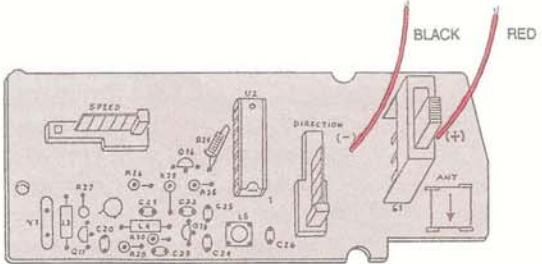

FIG. 60
9. Solder the two battery leads from the pistol-grip controller to the PC board, as illustrated in Fig. 60. Solder the RED lead to the solder pad marked with a (+) and the BLACK lead to the (-) point.